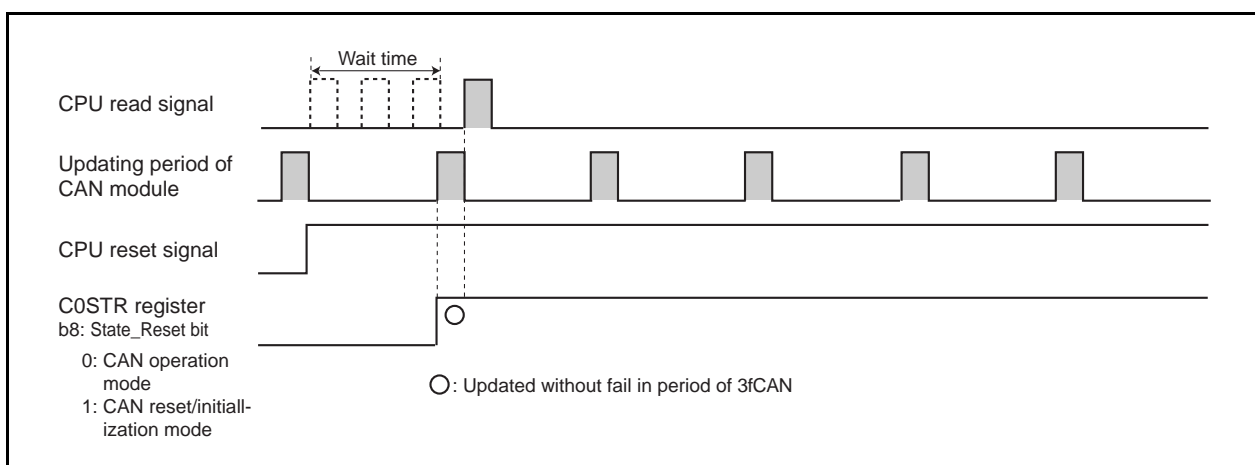

Figure 22.9 With a Wait Time of 3fCAN Before CPU Read
- There should be a wait time of 3fCAN or longer (see Table 22.2) before the CPU reads the C0STR register. (See Figure 22.9)